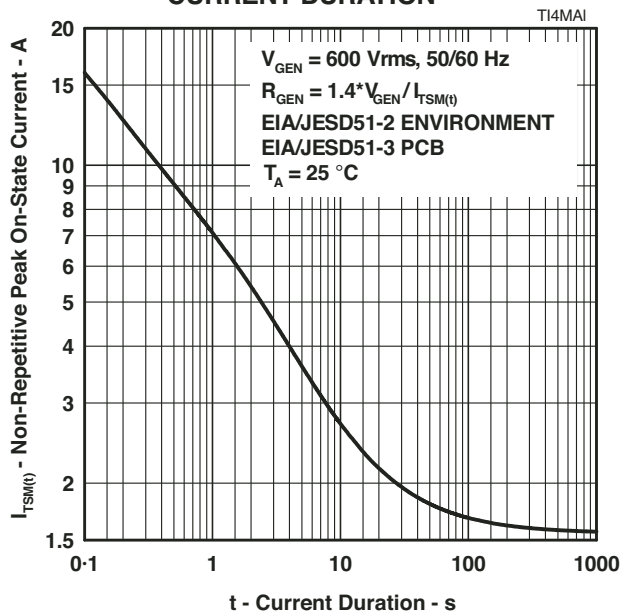

Figure 9.
5. EIA/JESD51-2 environment and EIA/JESD51-3 PCB with standard footprint dimensions connected with 5 A rated printed wiring track widths. See Figure 9 for the current ratings at other durations. Derate current values at  $-0.61\% / ^\circ\text{C}$  for ambient temperatures above  $25^\circ\text{C}$ .
The protector can withstand currents applied for times not exceeding those shown in Figure 9. Currents that exceed these times must be terminated or reduced to avoid protector failure. Fuses, PTC (Positive Temperature Coefficient) thermistors and fusible resistors are over-current protection devices which can be used to reduce the current flow. Protective fuses may range from a few hundred milliamperes to one ampere. In some cases, it may be necessary to add some extra series resistance to prevent the fuse opening during impulse testing. The current versus time characteristic of the overcurrent protector must be below the line shown in Figure 9. In some cases, there may be a further time limit imposed by the test standard (e.g. UL 1459 wiring simulator failure).